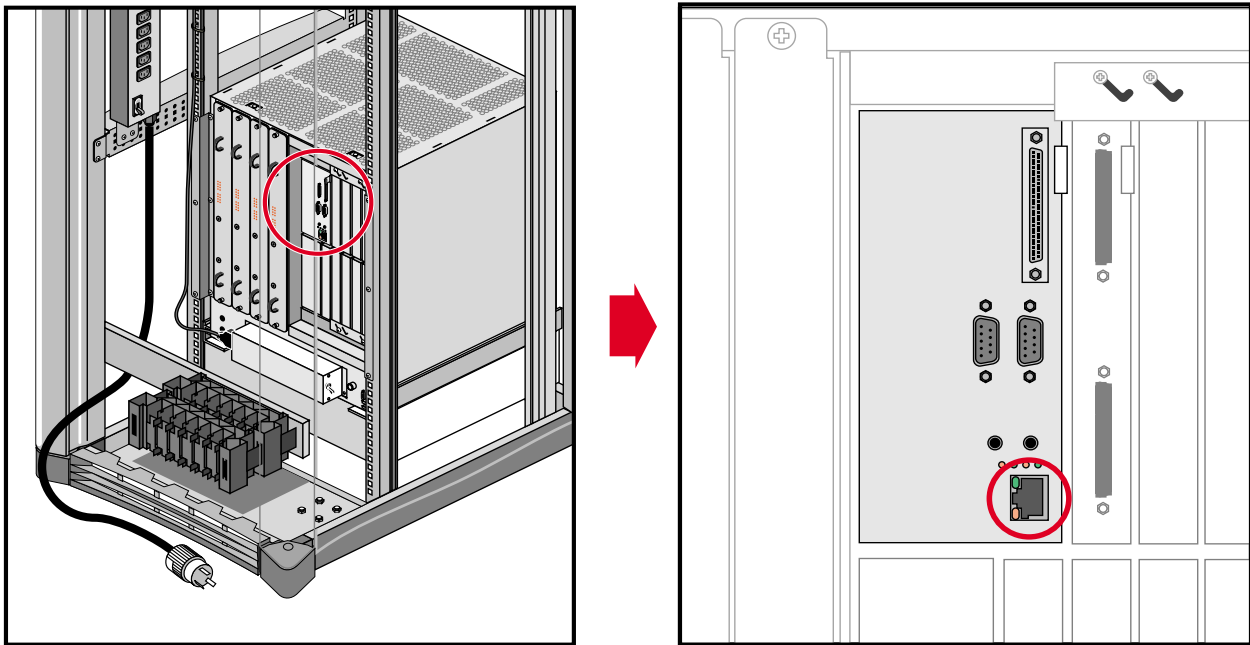

Figure 5-5 Connecting an Ethernet to the System
2. Plug the cable into the applicable connector (see Figure 5-5).